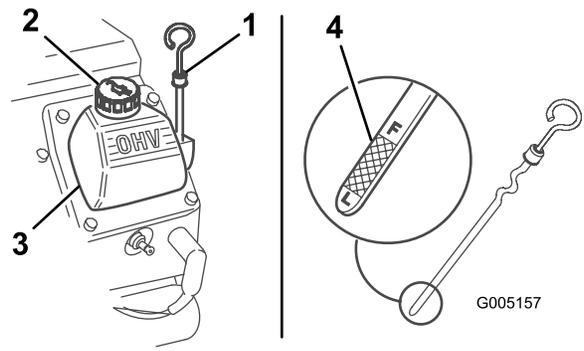

Figure 24
3. Clean the area around the oil dipstick (Figure 24).
4. Pull out the dipstick and wipe the metal end clean (Figure 24).
5. Slide the dipstick fully into the dipstick tube (Figure 24).
7. If the oil level is low, clean the area around the oil-fill cap and remove the cap (Figure 24).
12. Remove the fill cap (Figure 24) and slowly pour approximately 80% of the specified amount of oil in through the valve cover.